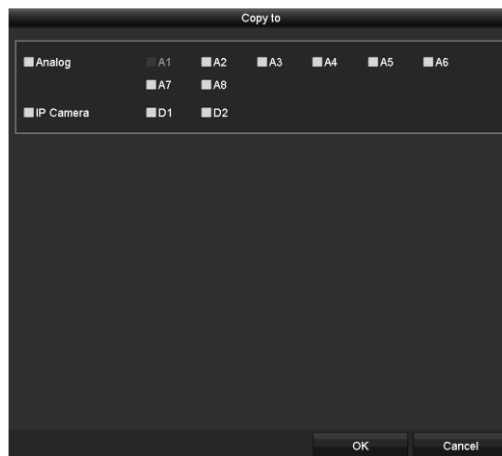

Figure 14-17 Copy Settings to Other Camera(s)
Step 5 Enter the storage capacity in the text field of **Max. Record Capacity (GB)**.
Step 6 You can copy the quota settings of the current camera to other cameras if required. Click the **Copy** button to enter the **Copy Camera** interface, as shown in Figure 14-17.